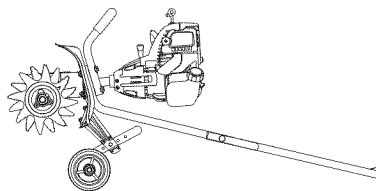

Fig. 13
2. Place the unit in a horizontal position to get a proper oil level reading (Fig. 13).